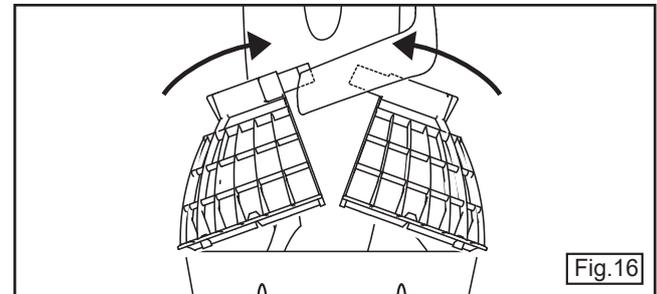

Fig.16
4. Unclip grille as shown in figure 16 (page 25) .